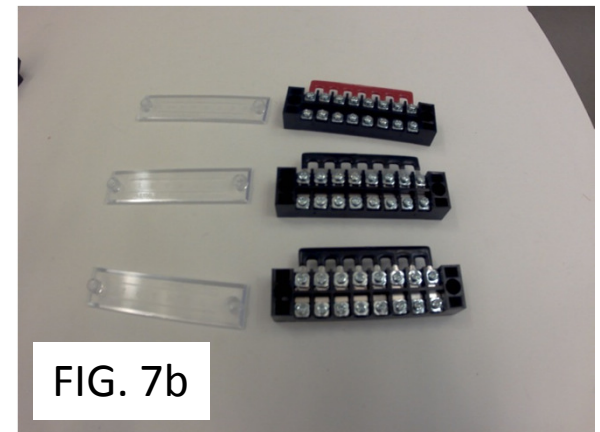

FIG. 7b
- Loosen screws, attach the insulated terminal jumpers under screws, then tighten, which connects them electrically (Fig. 7b). Repeat for all three terminal strips.